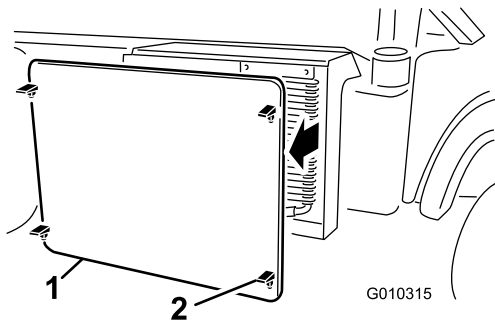

Figure 52
5. Unlatch and remove the radiator screen from the front of the radiator (Figure 52).